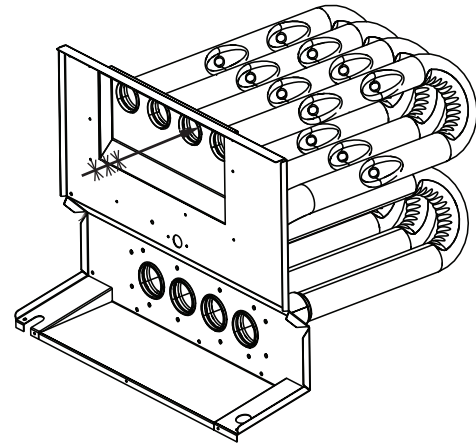

Fig. 74 – Cleaning Heat Exchanger Cell
7. Clean heat exchanger openings with a vacuum and a soft brush, see Fig. 74.